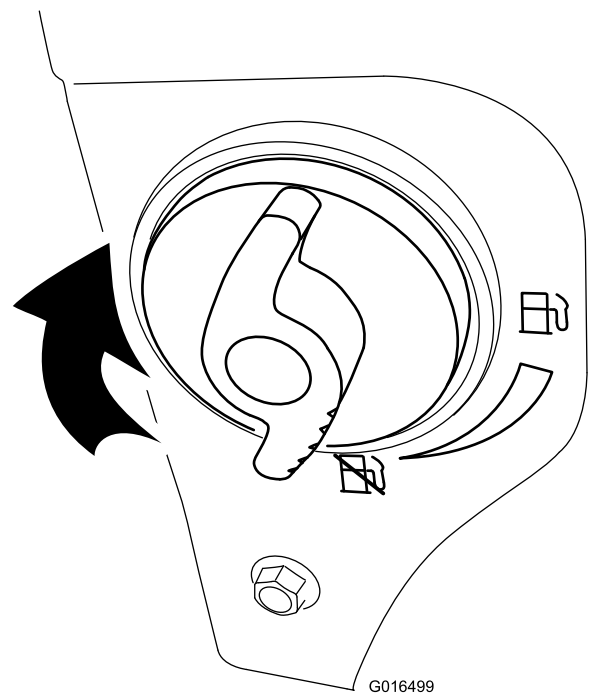

Figure 25
4. Close the fuel-shutoff valve by rotating it clockwise (Figure 25).